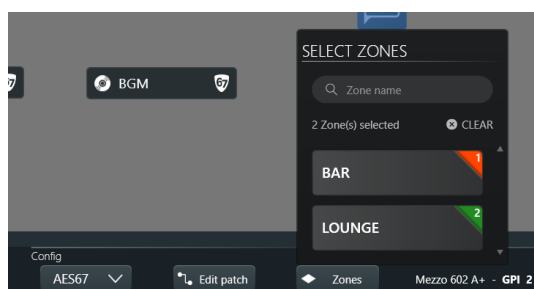

Figure 15 - Zones with Priority IN
4.3 Zones affected by the Priority Input (Figure 15)